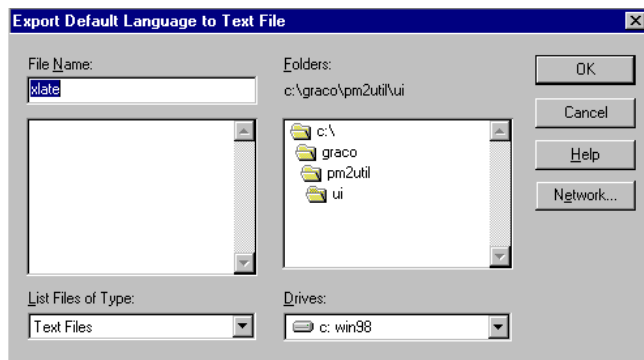

Fig. 13.53
- b. Name the file and press the OK button to create the text file. See Fig. 13.53.